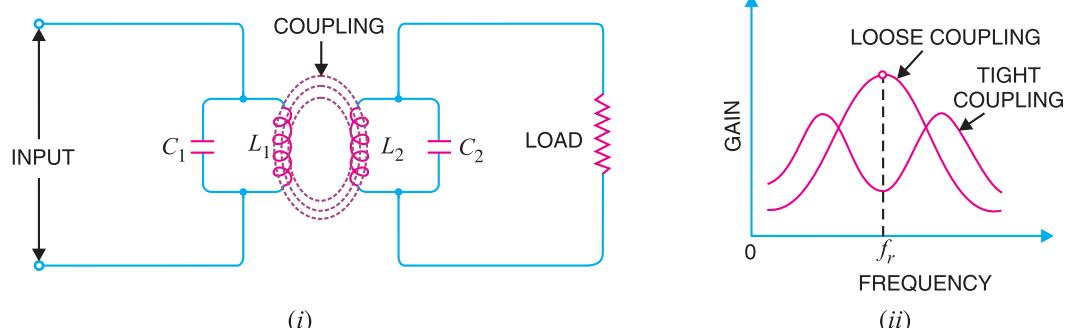

Fig. 15.14
**Frequency response.** The frequency response of a double tuned circuit depends upon the degree of coupling *i.e.* upon the amount of mutual inductance between the two tuned circuits. When coil  $L_2$  is coupled to coil  $L_1$  [See Fig. 15.14 (i)], a portion of load resistance is coupled into the primary tank circuit  $L_1C_1$  and affects the primary circuit in exactly the same manner as though a resistor had been added in series with the primary coil  $L_1$ .
When the coils are spaced apart, all the primary coil  $L_1$  flux will not link the secondary coil  $L_2$ . The coils are said to have *loose coupling*. Under such conditions, the resistance reflected from the load (*i.e.* secondary circuit) is small. The resonance curve will be sharp and the circuit  $Q$  is high as shown in Fig. 15.14 (ii). When the primary and secondary coils are very close together, they are said to have *tight coupling*. Under such conditions, the reflected resistance will be large and the circuit  $Q$  is lower. Two positions of gain maxima, one above and the other below the resonant frequency, are obtained.
If you refer to the frequency response of double-tuned circuit shown in Fig. 15.14 (ii), it is clear that bandwidth increases with the degree of coupling. Obviously, the determining factor in a double-tuned circuit is not  $Q$  but the coupling. For a given frequency, the tighter the coupling, the greater is the bandwidth.